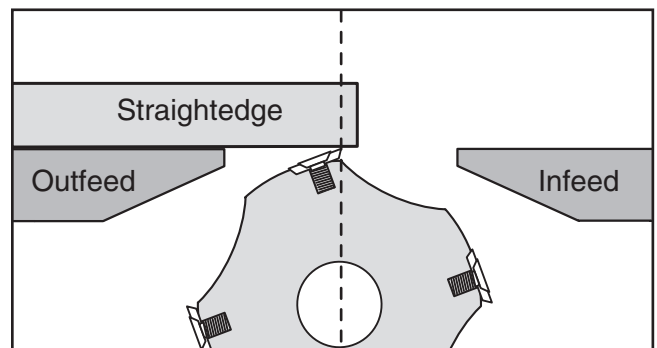

Figure 13. Outfeed table even with cutter at top dead center.
5. Place a straightedge across the outfeed table and just over the cutter positioned at top dead center (the straightedge should not extend over the infeed table during this procedure; see **Figure 13**).